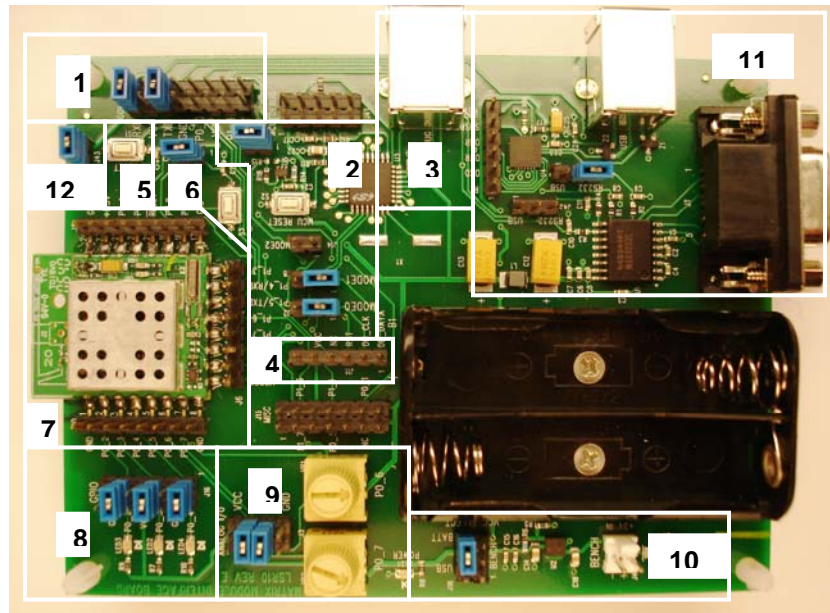

Figure 3 -1 Interface Module with 10mW Matrix Module Inserted in Socket
3.1 Interface Module Overview (See Figure 3 – 1 for Photo)